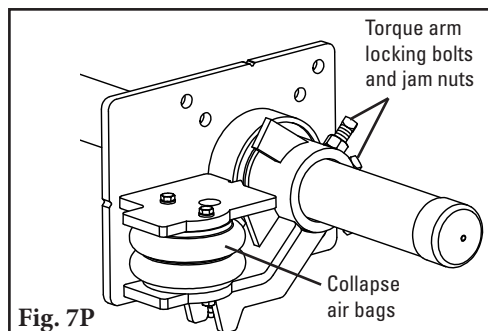

Fig. 7P
**7P. Tension the blades to the belt.** Collapse both air bags (with C-clamps) and rotate the blades until they are 25mm (1") short of contact with the belt. Tighten the torque arm locking bolts and jam nuts (Fig. 7P).